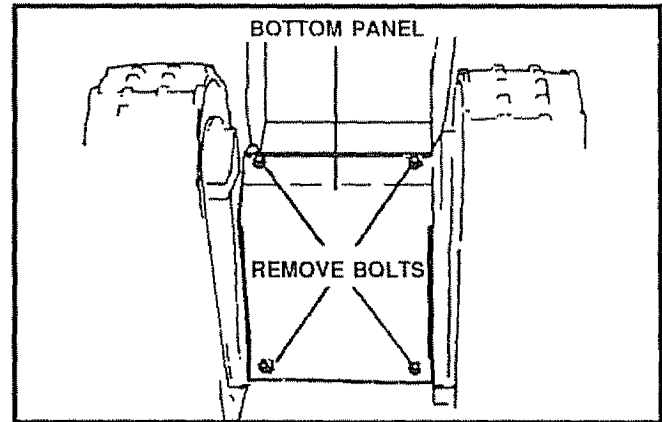
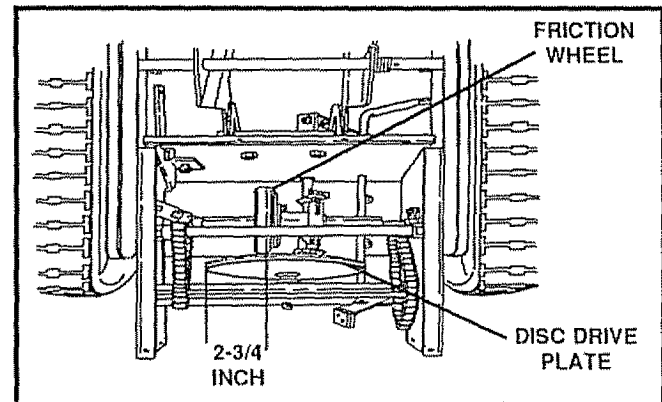

FIG. 28
FIG. 29
- Remove the bottom panel (See Fig. 28).
- Position the shifter lever in first (1) gear.
- Note the position of the friction wheel on the disc drive plate. The right side of the friction wheel should be  $2-3/4$  inches from the left outer side of the disc drive plate (See Fig. 29).